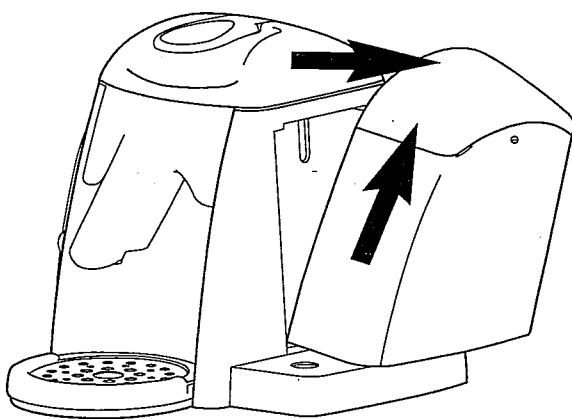

Figure 3
1. Remove the Water Tank by pulling up and then out and lift off the Base, see Figure 3.